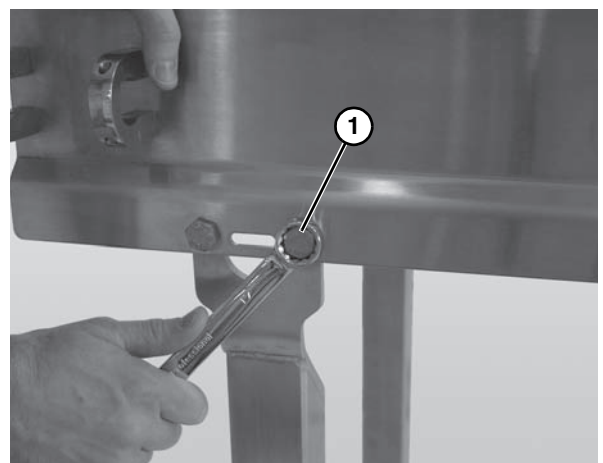

Figure 20
- Attach the stands to the frame (**Figure 20, item 1**).